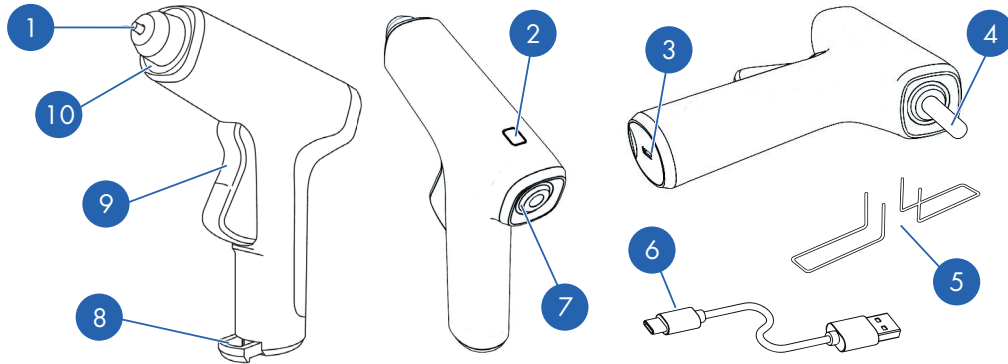

Fig. 1: Overview
1. Insert the charging plug (Fig. 1/6) into the charging socket (Fig. 1/3) and ensure that they are connected correctly (Fig. 2).
**Backside LED** (Fig. 1/7):